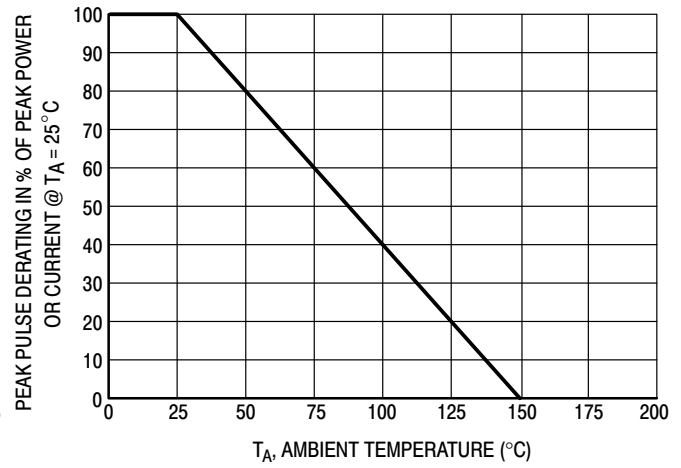
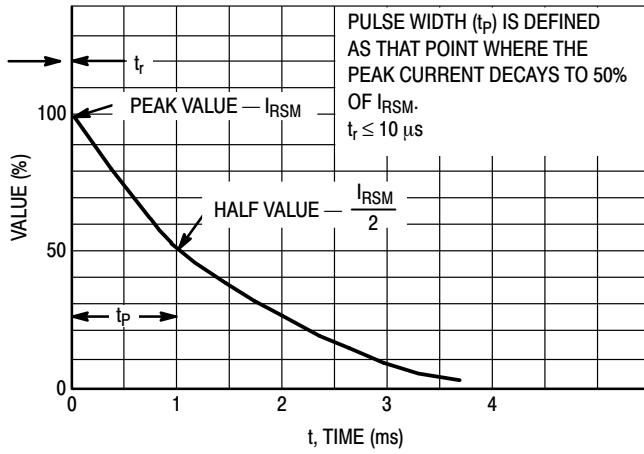
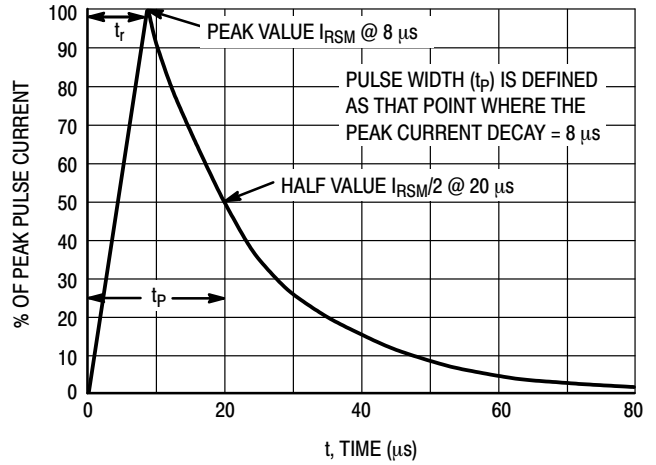

Figure 4. Pulse Derating Curve
Figure 5.  $10 \times 1000 \mu s$  Pulse Waveform
Figure 6.  $8 \times 20 \mu s$  Pulse Waveform
- Peak Power – Min. 24 W @ 1.0 ms (Unidirectional), per Figure 5 Waveform
- Peak Power – Min. 150 W @ 20  $\mu$ s (Unidirectional), per Figure 6 Waveform
1. Non-repetitive current pulse per Figure 5 and derate above  $T_A = 25^\circ\text{C}$  per Figure 4.
2. Non-repetitive current pulse per Figure 6 and derate above  $T_A = 25^\circ\text{C}$  per Figure 4.
8. Surge current waveform per Figure 5 and derate per Figure 4.